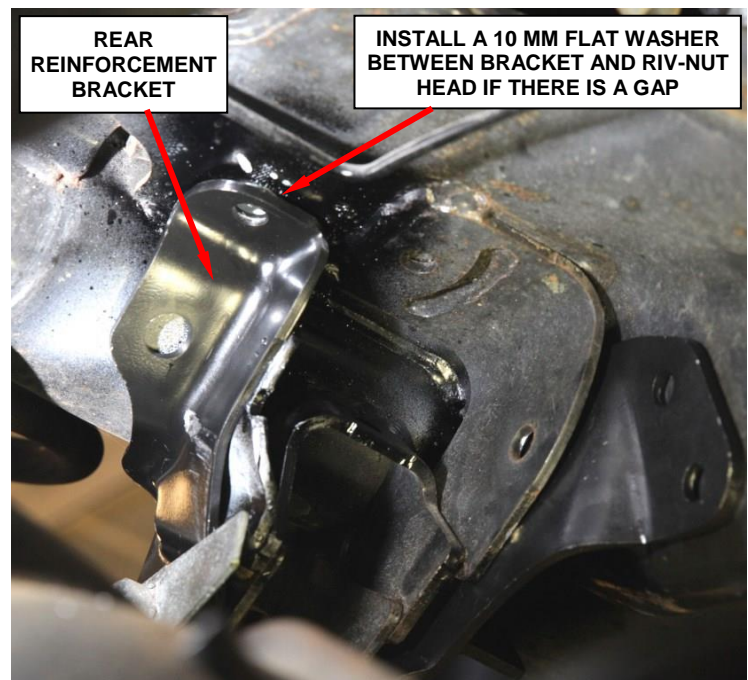

Figure 17 – 10mm Flat Washer
23. Rotate the rear reinforcement bracket up into position, until it makes contact with the newly installed riv-nut (Figure 17).
24. If a gap occurs between the rear reinforcement bracket and the riv nut head then install the M10 flat washer between the reinforcement bracket and the riv-nut head (Figure 17).